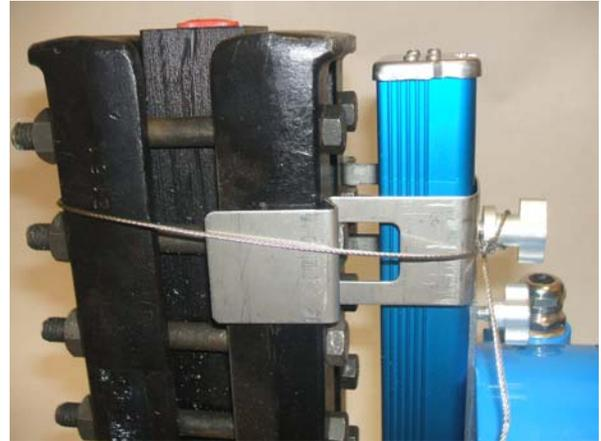

Figure 5
Step 3: While holding the top bracket in place, grab the thumb nut end of the cable, wrap around entire gauge and thread onto the stud until the bracket is secure. When wrapping the cable around the gauge, make sure to feed the cable above the bolt as shown above in Figure 5. Snug the cable and secure the thumb nut, but do not fully tighten the thumb nut at this time